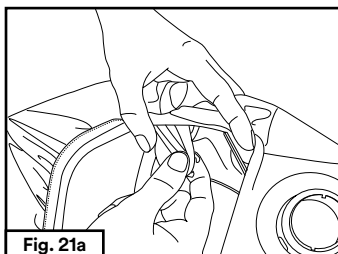
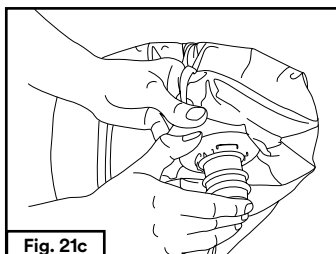

Fig. 21a
Fig. 21c
Dispose of product according to local regulations. The integrated plastic components (head suspension and air inlet) of the S-133, S-433, and S-533 series can be removed for disposal (Fig. 21a, 21b, 21c). On the S-103 and S-403 the plastic air inlet may be removed (Fig. 21c).
- Release the press studs attaching the face seal to the integrated head suspension and remove from the fabric faceseal (Fig. 21a).
- Remove the air inlet by detaching from the headtop fabric (this may require the use of a tool) (Fig. 21c).